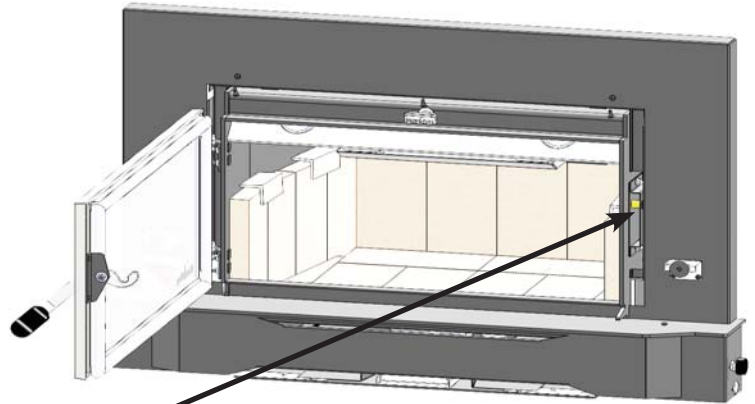

Fig. 22
3. To tighten the door tension use a $7/16$ " wrench to loosen the two nuts on the latch cover. Slide the latch cover towards the back of the appliance and tighten nuts. (Fig. 22) Repeat paper test (see "LOADING DOOR GASKET INSPECTION" on page 37).